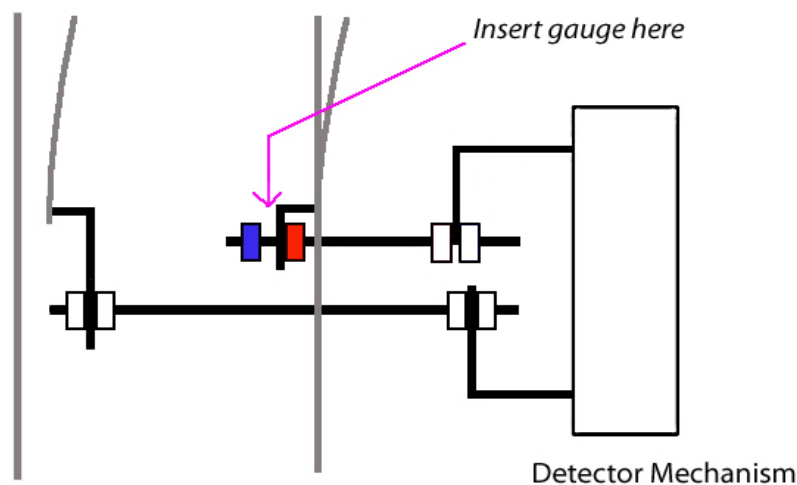

Figure 3 – Detector Mechanism (3)
2.2 Check the short detector rod is connected to the closed switch (Figure 3).